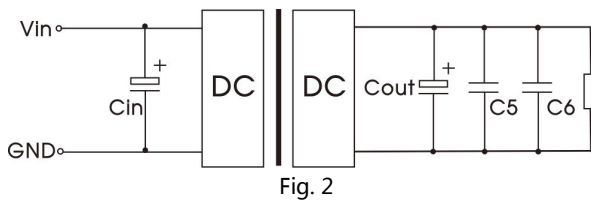

Fig. 2
①Load regulation for 0% -100% load increases to ±3%;
②Under 0% -5% load conditions, ripple & noise does not exceed 5%Vo. The " Tip and barrel method" is used for ripple and noise test, please refer to Fig. 2. for recommended circuit.
All the DC-DC converters of this series are tested before delivery using the recommended circuit shown in Fig. 2.